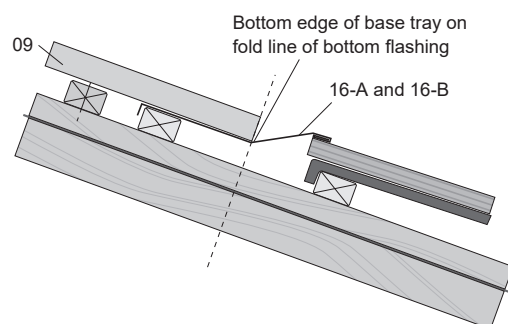

Figure 6-12c: Section Through Bottom Flashing
4. Fit first lower base tray (10-A). Position side of tray at distance 'C' (see Table 6-5) from end of bottom flashing, with lower edge along the fold line of the bottom flashing – see Figure 6-12c.
6. Fit first right hand (RH) half base tray (10-B) with upwards facing return fold towards centre. Position side of RH half base tray at distance 'C' (see Table 6-5) from end of bottom flashing with lower edge along the fold line of the bottom flashing – see Figure 6-12c.